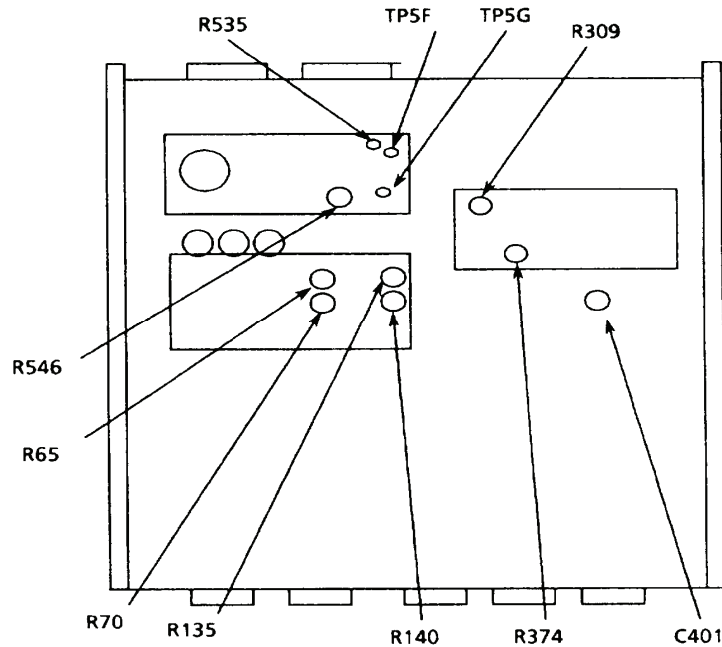

Figure 2. Test instrument - top view.
b. Adjustments. Adjust **AMPLITUDE VERNIER** control fully ccw and adjust R374 (fig. 2) for a pulse amplitude indication on oscilloscope of less than 50 V (R).
- (1) Adjust R140 (fig. 2) for a pulse width indication on oscilloscope of 50 ns or less.
- (2) Adjust R135 (fig. 2) for a pulse width indication on oscilloscope of 100 μs or greater.
(1) Adjust R65 (fig. 2) until leading edge of output pulse indicated on oscilloscope is 10 μs or more to the right of leading edge of sync pulse (R).
(2) Adjust R70 (fig. 2) until pulse delay indicated on oscilloscope is 10 μs or less (R).
(1) Adjust R309 (fig. 2) for minimum pulse aberrations (R).
(2) Adjust C401 (fig. 2) for minimum pulse overshoot (R).
- (1) Set **POWER** switch to **OFF** and remove top protective cover.
- (2) Connect multimeter negative terminal to circuit ground and positive terminal to TP5F (fig. 2).
- (3) Set **POWER** switch to **ON**. If multimeter indication is not between -190 and -210 V dc, perform **b** (1) below.
- (4) Move digital voltmeter negative lead to TP5G (fig. 2). If multimeter indication is not between + 34 and + 36 V dc, perform **b** (2) below.
- (1) Adjust R535 (fig. 2) for a -200 V dc indication on multimeter (R).
- (2) Adjust R546 (fig. 2) for a + 35 V dc indication on multimeter (R).